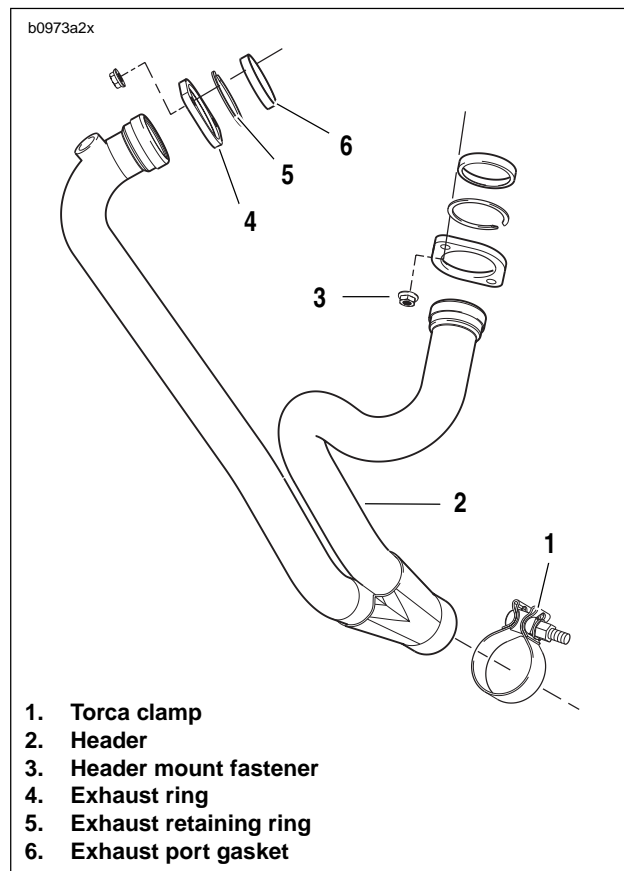

Figure 2-110. Exhaust Header
**Rear:** Alternately loosen rear strap fasteners (1) and remove straps (2).
6. See Figure 2-110. Loosen Torca clamp (1) and remove muffler.
3. See Figure 2-110. Remove exhaust header (2) by removing mounting fasteners (3).
4. Remove exhaust ring (4), retaining ring (5) and port gasket (6).
1. See Figure 2-110. Install exhaust ring (4), retaining ring (5) and **new** port gasket (6).
2. Install exhaust header (2). Tighten mounting fasteners (3) to 72-96 in-lbs (8-11 Nm).
4. See Figure 2-110. Tighten the Torca clamp (1) to 28-30 ft-lbs (38-40.6Nm).